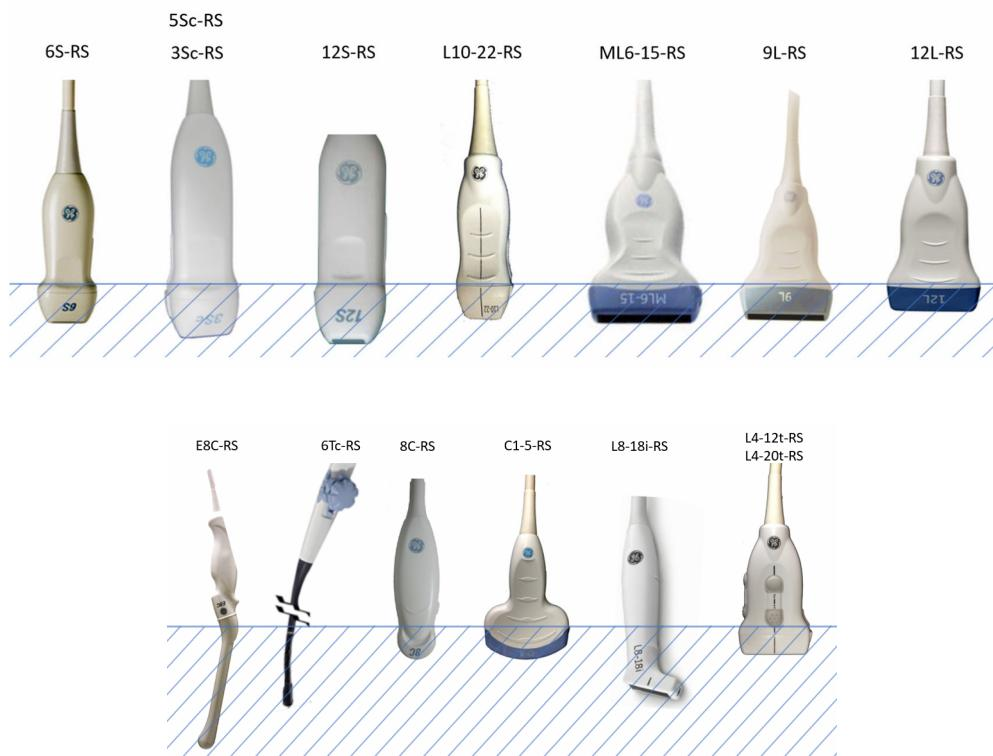

Figure 9-8. Probe immersion levels
1. Ensure the probe has been disconnected from the console. Replace gloves and fill a sink or basin with warm potable water (30 - 40°C) to a level allowing immersion of the probe up to the immersion line shown in Figure 9-8.
Do not submerge probe beyond the immersion line (Figure 9-8).
1. Ensure the probe has been disconnected from the console. Replace gloves and fill a sink or basin with High-Level Disinfectant diluted in accordance with the disinfectant manufacturer's instructions to a level allowing immersion of the probe up to immersion line shown in Figure 9-8.
2. Immerse probe in the disinfectant up to the immersion line shown in Figure 9-8 and ensure no air bubbles are trapped. Ensure the probe remains in the disinfectant for at least the minimum contact time listed in the disinfectant manufacturer's instructions for use.